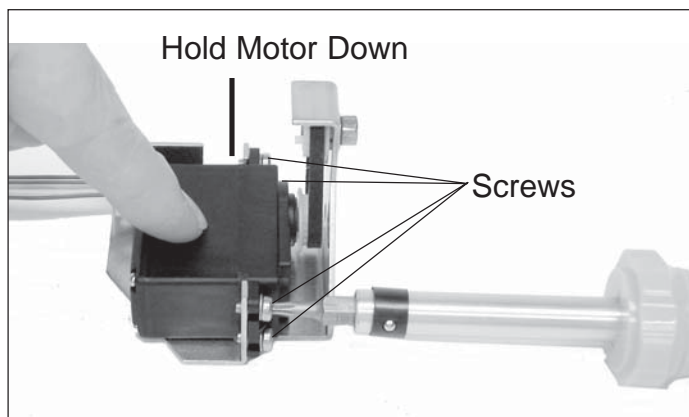

Figure 3-19. Motor Installation.
5. Refer to Figure 3-19, hold the Motor down and install and tighten the 4 Motor screws.